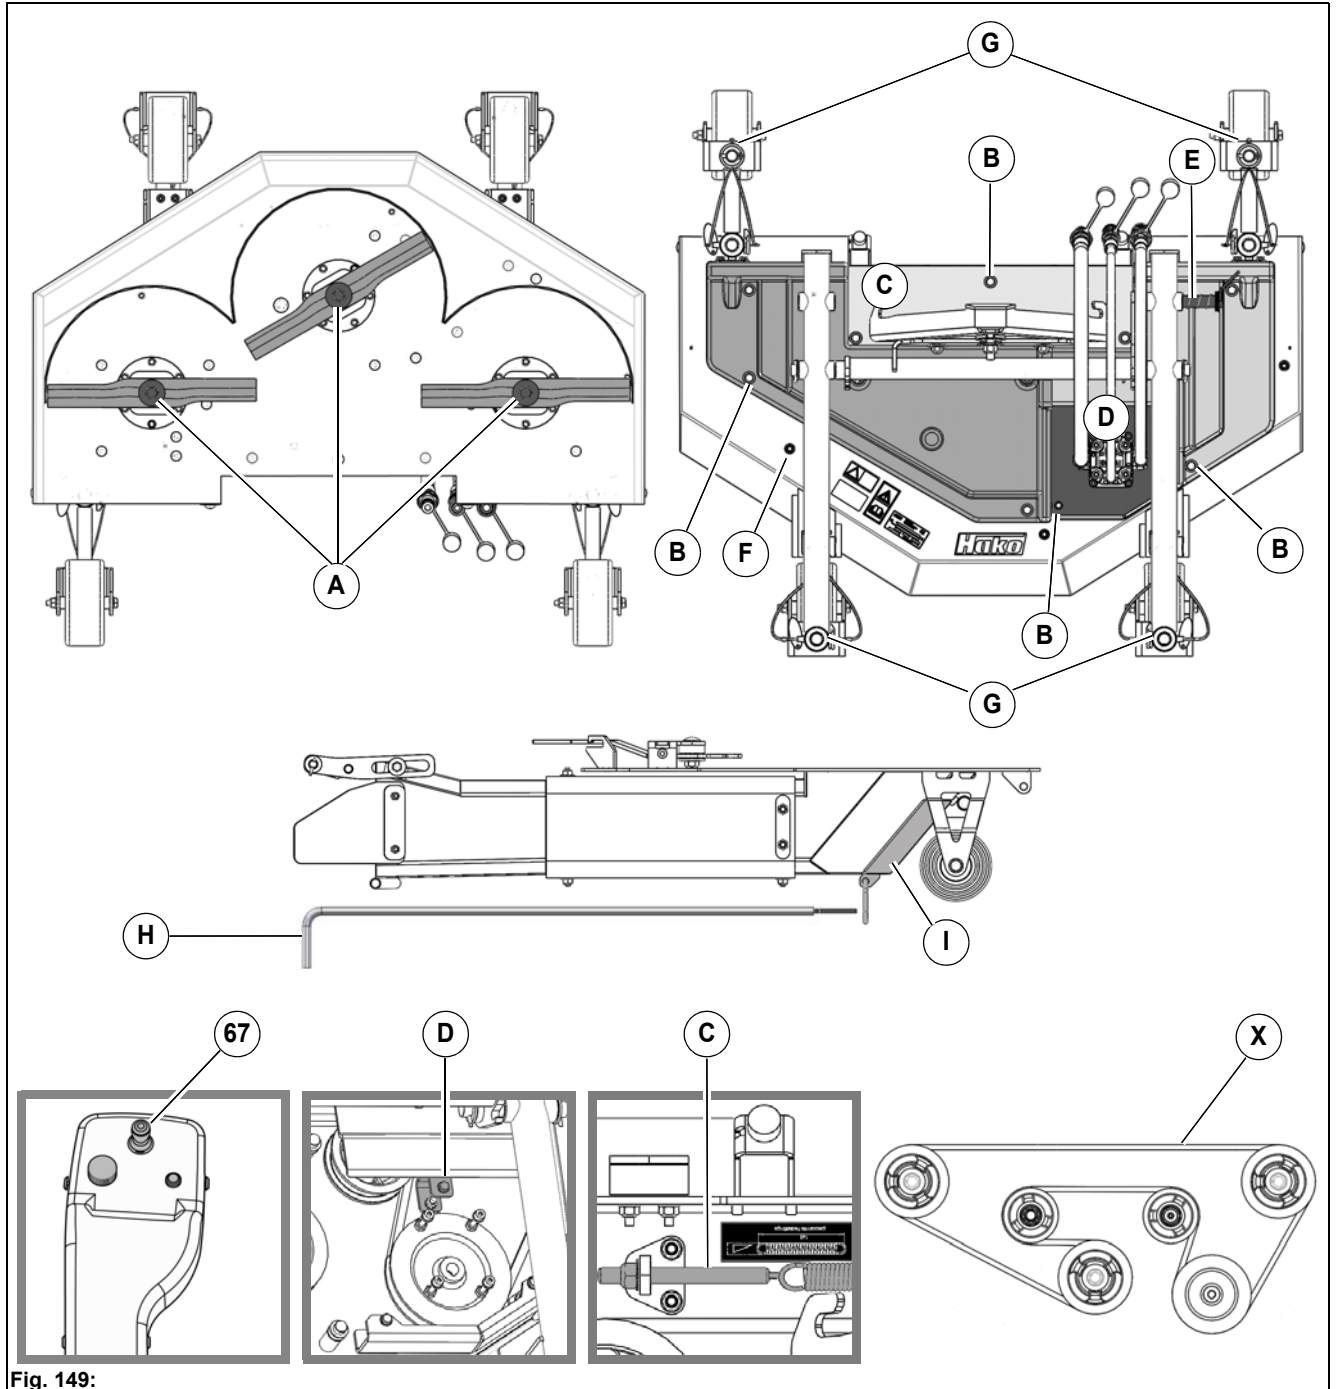

Fig. 149:
2. Loosen the screw **Fig. 149-A** and take off the disk and mowing blade.
2. Loosen the screws on the covers **Fig. 149-B** and remove the covers.
3. Relax the tension spring with the screw **Fig. 149-C** and unhook it.
4. Remove the screws of the gearbox holder **Fig. 149-D** and remove the defective V-belt.
5. Insert the new V-belt corresponding to **Fig. 149-X**.
2. Bring the mower into the cleaning position with the mounting bolt **Fig. 149-E**.
4. Plug the water hose onto the three hose couplings **Fig. 149-F** one after the other and clean with a water hose. Let the mower run for one to two minutes for this.
3. Open the flap **Fig. 149-I** with the lance **Fig. 149-H**. Let the suction fan run for one to two minutes.
- Bushes of the wheel holders **Fig. 149-G** (4 pieces)